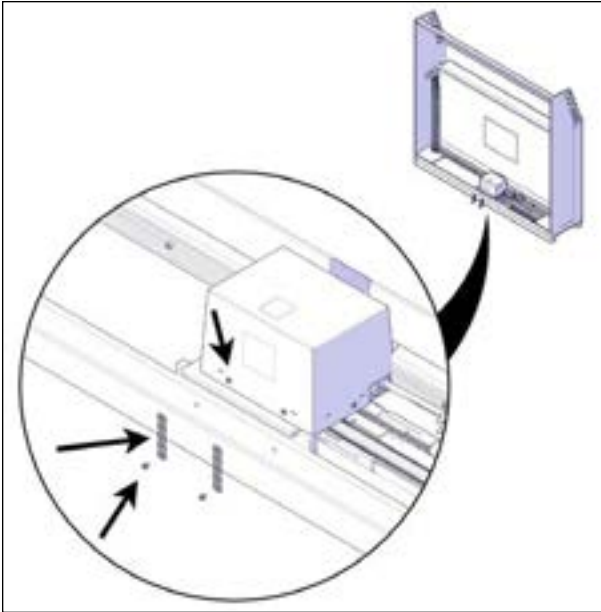

FIGURE 25: REMOVE THE OPERATOR
5. Use a slotted screwdriver to remove the metal strapping holding the operator in place Figure 25.